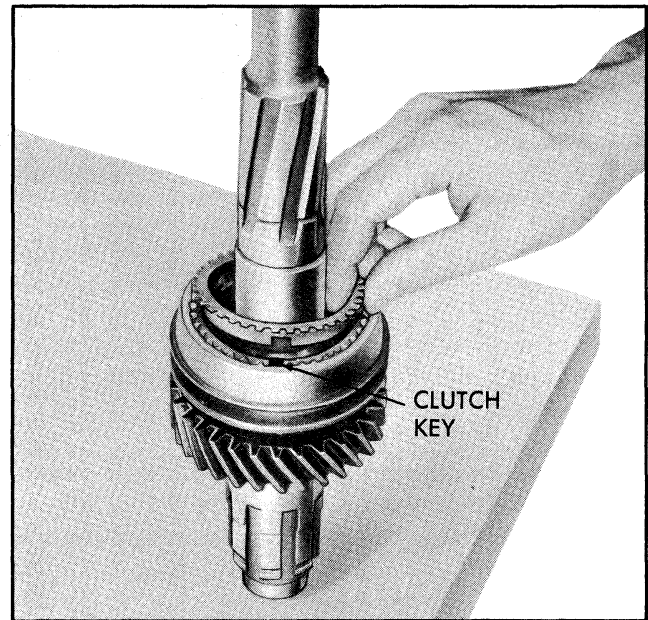

Fig. 7A-26 Installing Synchronizer Ring
2. Install 1-2 Synchronizer clutch assembly to mainshaft (sliding clutch sleeve taper toward the rear, hub to the front); together with a synchronizing ring on either side so their keyways line up with the clutch keys (Fig. 7A-26). Install smaller of two